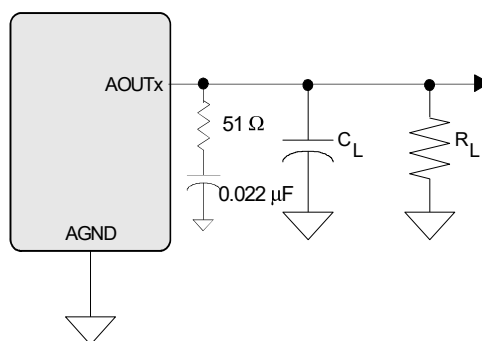

Figure 2. Headphone Output Test Load
5. See Figure 2. R_L and C_L reflect the recommended minimum resistance and maximum capacitance required for the internal op-amp's stability and signal integrity. In this circuit topology, C_L will effectively move the band-limiting pole of the amp in the output stage. Increasing this value beyond the recommended 150 pF can cause the internal op-amp to become unstable.
Test conditions (unless otherwise specified): Input test signal is a full-scale 997 Hz sine wave; Sample Frequency = 48 kHz; Measurement Bandwidth is 20 Hz to 20 kHz; Test load $R_L = 16 \Omega$, $C_L = 10$ pF (see Figure 2); "Required Initialization Settings" on page 32 written on power up.
Test conditions (unless otherwise specified): Input test signal is a full-scale 997 Hz sine wave; measurement bandwidth is 20 Hz to 20 kHz; Sample Frequency = 48 kHz; Test load $R_L = 10\text{ k}\Omega$, $C_L = 10\text{ pF}$ (see Figure 2); "Required Initialization Settings" on page 32 written on power up.